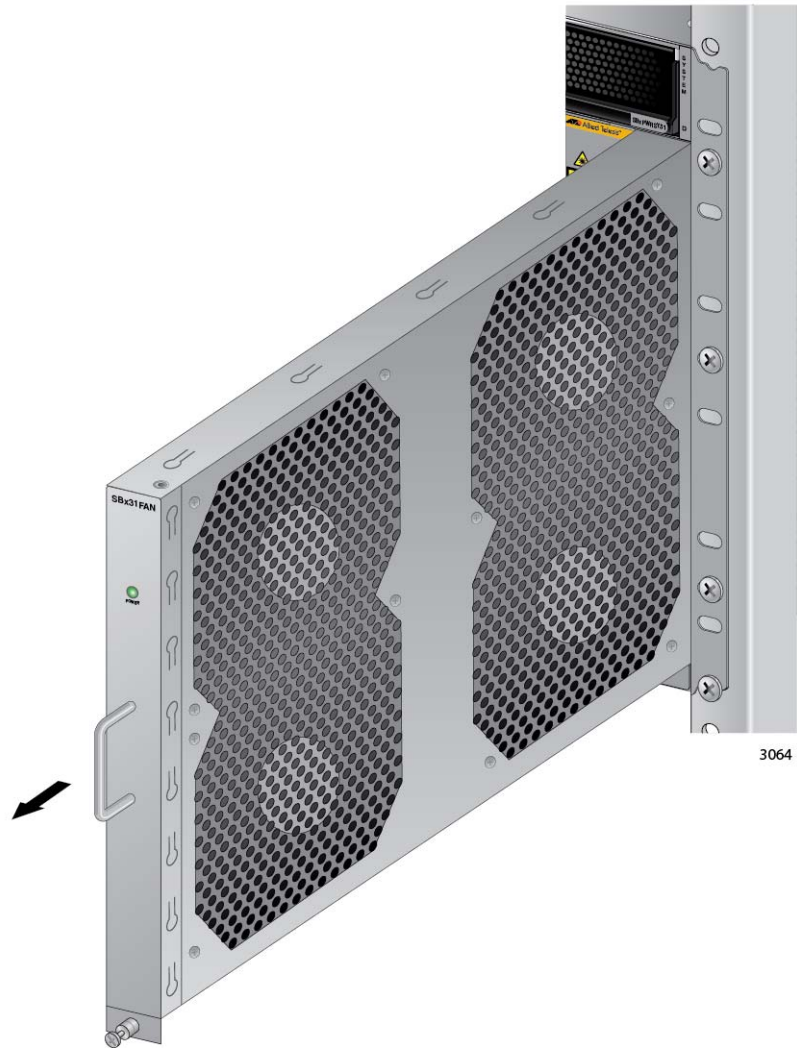

Figure 171. Removing the AT-SBxFAN12 Fan Module from the Chassis
6. After the fans have stopped, slide the module from the chassis. Refer to Figure 171 on page 265.